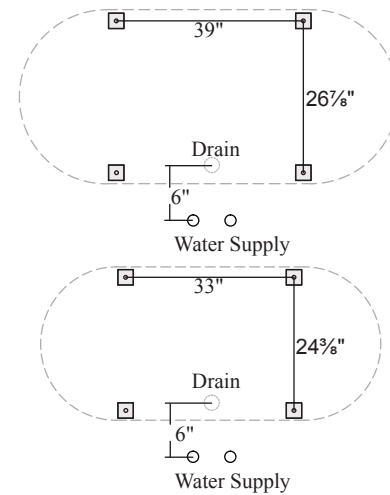

Figure 19. Securing the Bathtub
- 2 Measure 6" from the center of the water supply line to the center of the bathtub drain opening (Figure 19).